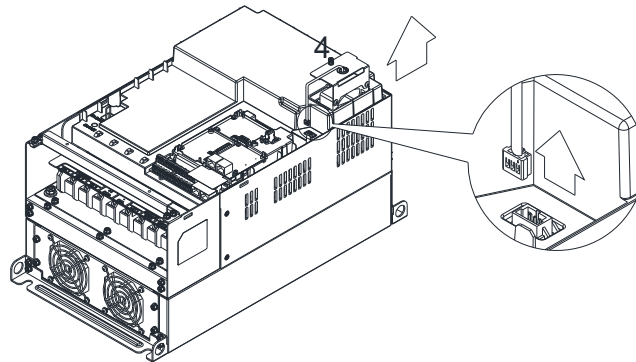

Figure 3
3. Loosen screw 4 (figure 3) and disconnect fan power and pull out the fan. (As shown in the enlarged picture 3) Screw 4 Torque: 10–12 kg-cm / (8.7–10.4 lb-in.) / (1.0–1.2 Nm)